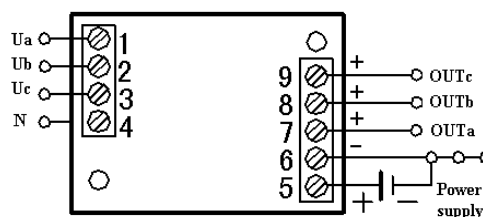

Figure 3, CE-VJ41 DC power supply, AC three-phase three-wire input, voltage or current output wiring diagram
- ① 3mm diameter hole in the fixed plate according to the screw hole position shown in Fig. 3;
- ② Use the screw  $\Phi 3$  to insert into hole and secure it.